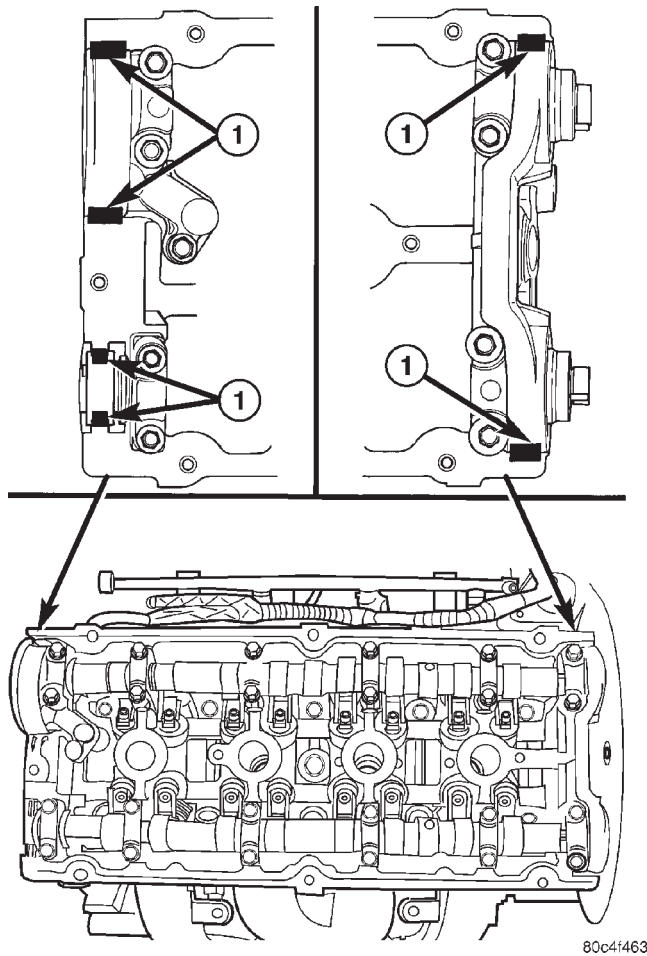

Fig. 32 Sealer Locations
(3) Apply Mopar® Engine RTV GEN II at the camshaft cap corners and at the top edges of the 1/2 round seal (Fig. 32).